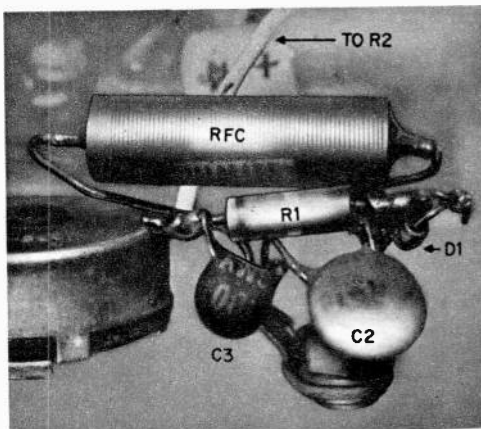

Fig. 8—RF-output-meter parts are located on rear chassis apron near regeneration control R106 (left). Don't apply excessive heat when soldering to D1.
• **RF Output Meter.** The plate current dip in the Sixer is difficult to determine. A much more accurate tune-up can be achieved by using a meter that reads RF voltage. Mount the meter on the front panel as shown in Fig. 1. The circuit is shown in Fig. 3 and the installation of the rectifier-filter network (already built in the HW-29A) is shown in Fig. 8.